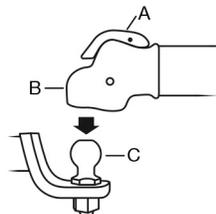
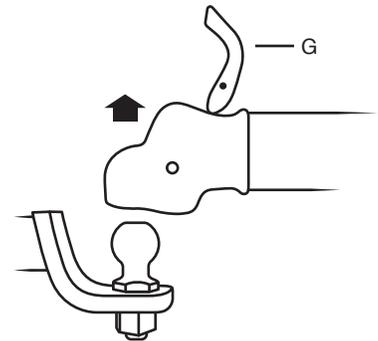

Figure 5
Figure 13
Check that coupler release-lever (A) is in fully down position. Lower the coupler (B) onto the hitch-ball (C) as shown using the tongue jack. (Figure 5) The coupler should snap onto the hitch-ball securely.
Raise the coupler release-lever (G) to a vertical position. (Figure 13) If release-lever will not raise with normal hand effort; push rearward on the AT, or drive forward slightly, until release-lever will raise by normal effort. Next, lift the coupler completely off the hitch-ball with the tongue jack, then carefully lower the trailer tongue to the ground. Lower the release-lever to fully down position when finished. (See Figure 5)